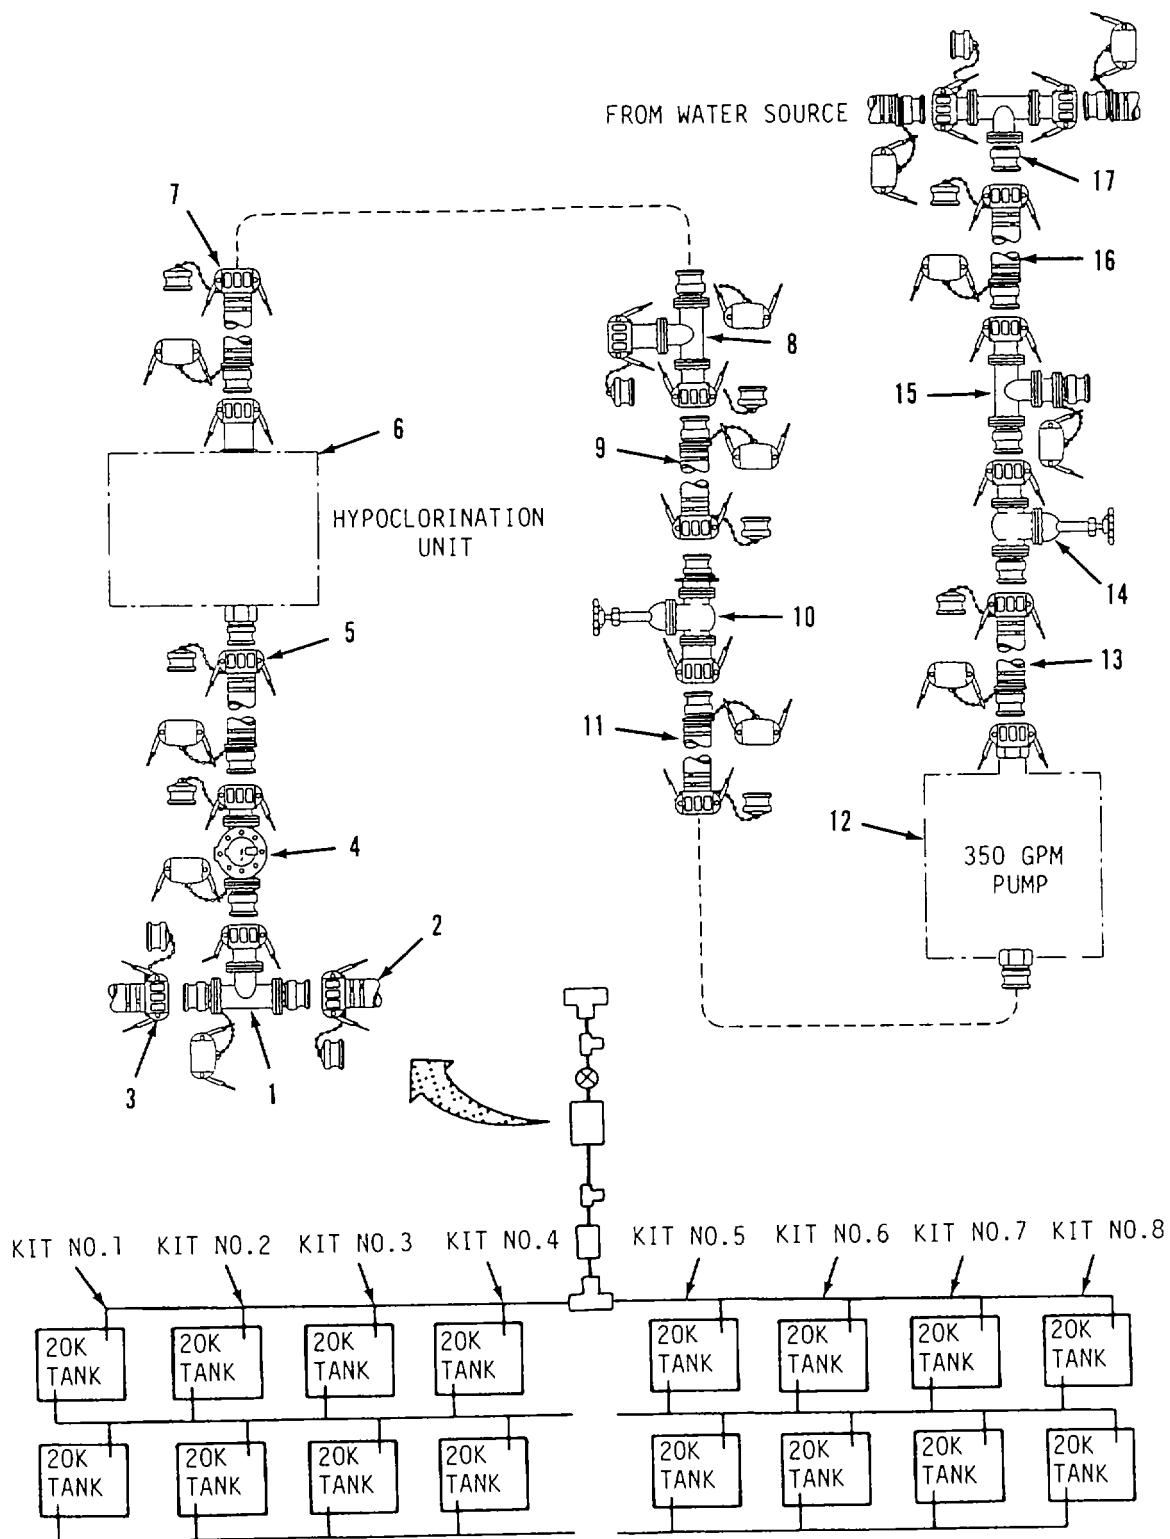

Figure 2-34. 350 Gpm Pump Connection Kit (Water Source) Disassembly.
(14) Roll up all discharge hoses and secure with tape.
(15) Prepare 125 gpm pump (6) for movement Refer to the applicable TM.
j. Disassemble 350 Gpm Pump Connection Kit (Water Source). Refer to figure 2-34.